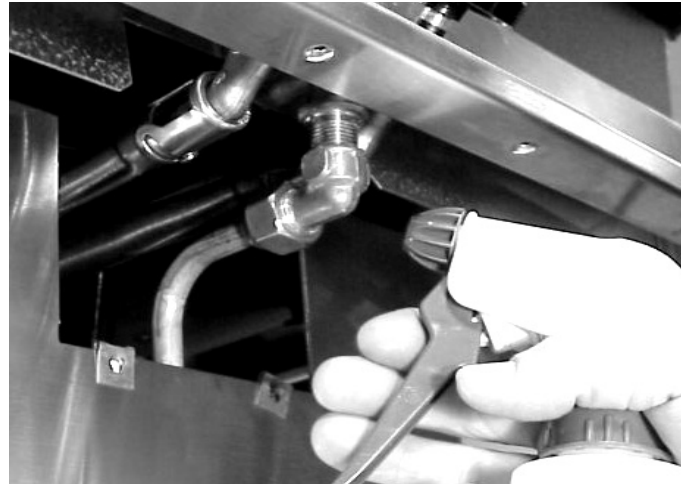

Figure 17 Leak Checking the Valve Connection
2. TURN YOUR GAS SUPPLY (LP OR NAT) ON AND TEST ALL FITTINGS FOR LEAKS. BEFORE ATTEMPTING TO LIGHT GRILL, BE CERTAIN BOTH VALVES ARE IN THE OFF POSITION. TURN GAS SUPPLY ON (leaving both control knobs in the "OFF" position) AND CHECK ALL CONNECTIONS WITH A SOLUTION OF 50% LIQUID SOAP, 50% WATER. SOLUTION CAN BE SPRAYED ON WITH A SPRAY BOTTLE (see Fig. 17) OR PAINTED ON ALL CONNECTIONS WITH A BRUSH. IF BUBBLES APPEAR, TURN OFF GAS, TIGHTEN FITTINGS AND TRY AGAIN. NEVER CHECK FOR LEAKS WITH A MATCH OR FLAME.